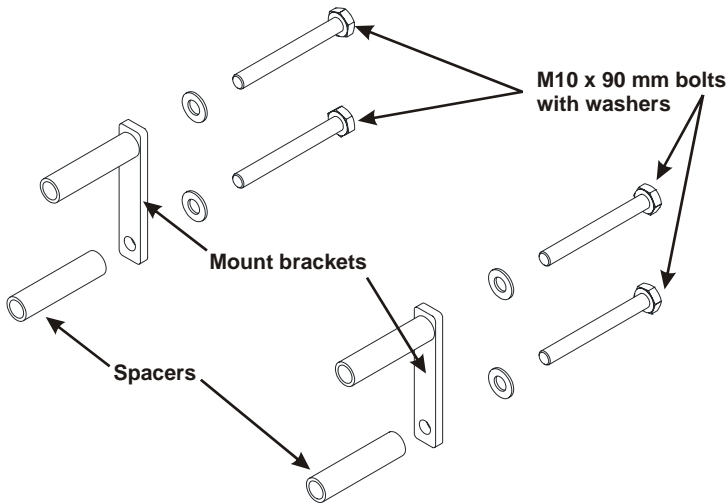

Figure 2.1
- ☐ Apply Loctite, insert M10 x 90 mm bolts into the top of the two mount brackets (Figure 2.1) and place them over the cross-member that runs under the radiator. Make sure that the tubes and bolts fit between the cross-member and the rubber strip on the top of the cross-member.